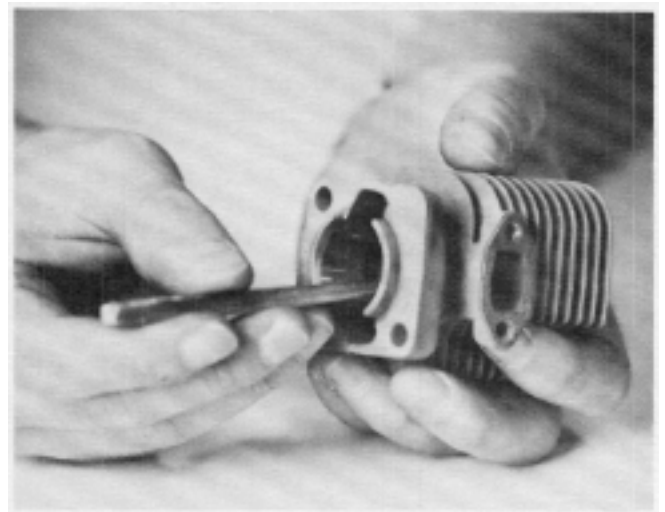

Figure 101
3. Remove carbon from cylinder combustion chamber, exhaust port and piston. Carbon can be removed with a non-marring scraper. Be careful not to damage the cylinder's chrome plated bore. See Figure 101.